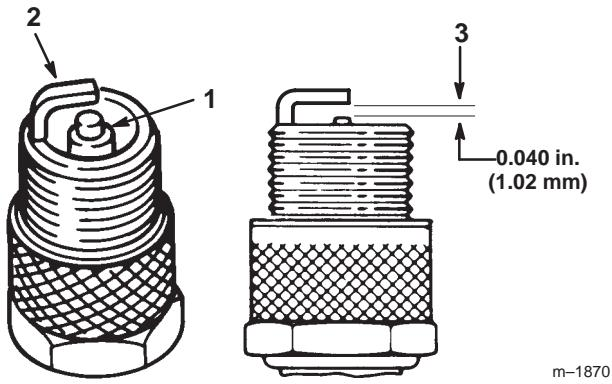

Figure 24
1. Look at the center of the spark plug(s) (Fig. 24). If you see light brown or gray on the insulator, the engine is operating properly. A black coating on the insulator usually means the air cleaner is dirty.
- Check the gap between the center and side electrodes (Fig. 24). Bend the side electrode (Fig. 24) if the gap is not correct.